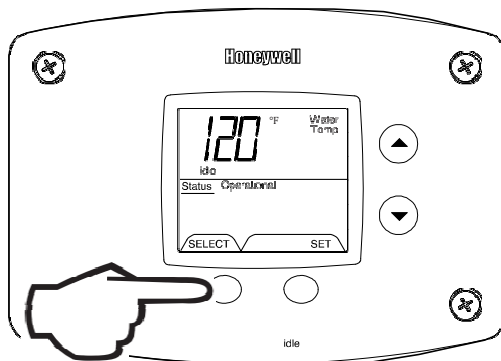

Fig. 27
2. Pressing 'Select' button will change display to next mode (Fig. 27).